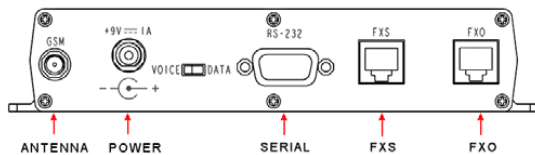

Figure 6
**NOTE:** The FXO port is not used; see **Figure 6**